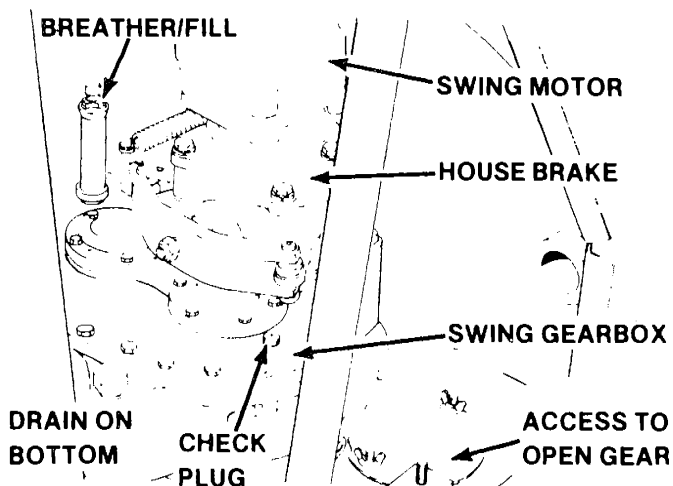

Figure 18. Turntable Ring Gear Access Hole and Swing Mechanism
6. **SWING GEARBOX** - Check oil level weekly or every 50 hours whichever comes first. Drain and refill every 6 months or 1500 hours, whichever comes first. FILL, CHECK and DRAIN plugs are shown in Figure 18.